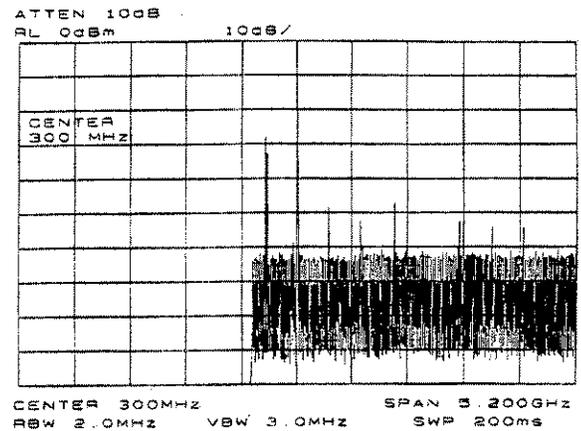

Figure 1-3. Center Frequency Set to 300 MHz
1. Set the center frequency. Press **FREQUENCY**. This activates the center frequency function, indicated by **CENTER** appearing in the active function block on the left side of the display (see Figure 1-3). To set the center frequency to 300 MHz, use the keys in the data section of the front panel and press 300 **MHz**. These data keys allow you to select the exact numeric value of the active function, which in this case is the center frequency. The step keys and knob also allow you to select function values.